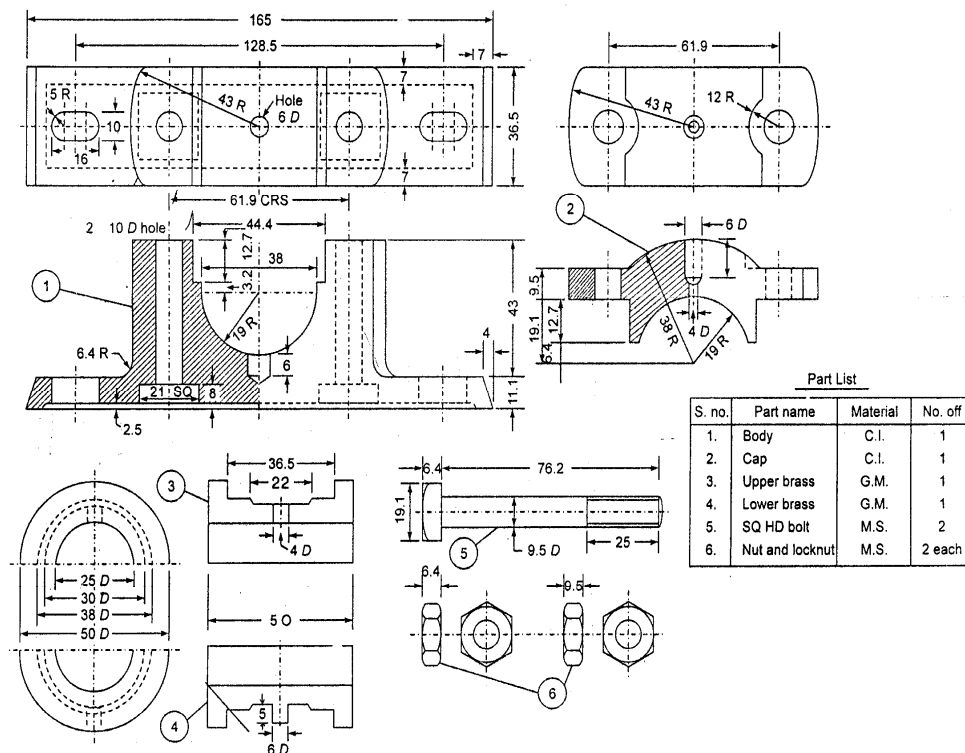

Fig. 1 Details of plummer block
4. Figure 1 gives the part drawings of Plummer block. Assemble all the parts and draw the following assembled views. (48M)